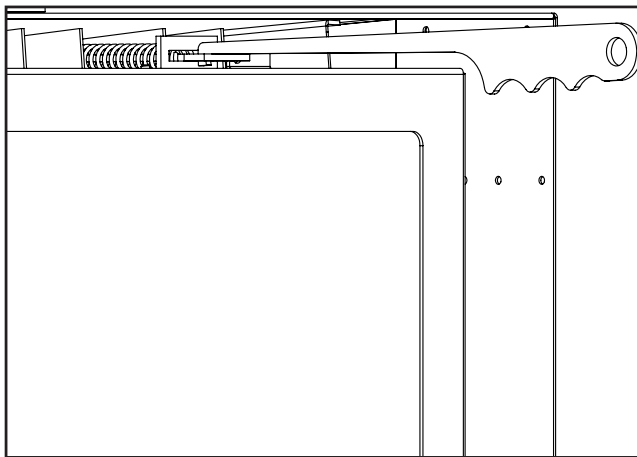
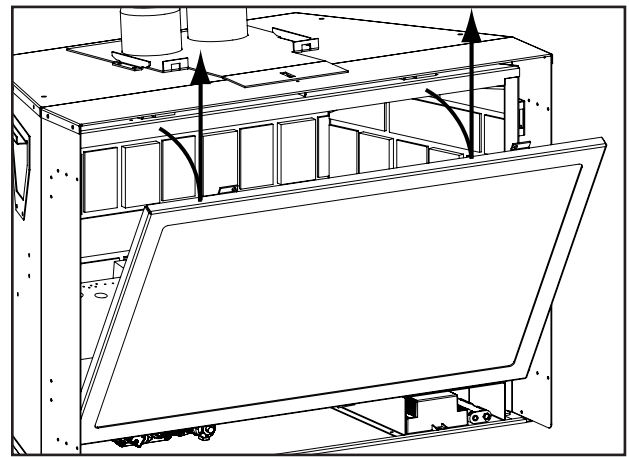

Figure 7: Door Release.
Figure 8: Door Removal.
Remove the glass door by placing the hooked end of the door release tool in the hole on the door latch mechanism (see Figure 7) and pulling the latch out then over to the center of the unit. When the two (2) latches have been released, tilt the door forward and then lift up to unhook the bottom door tabs (see Figure 8). Re-assemble in the reverse order.